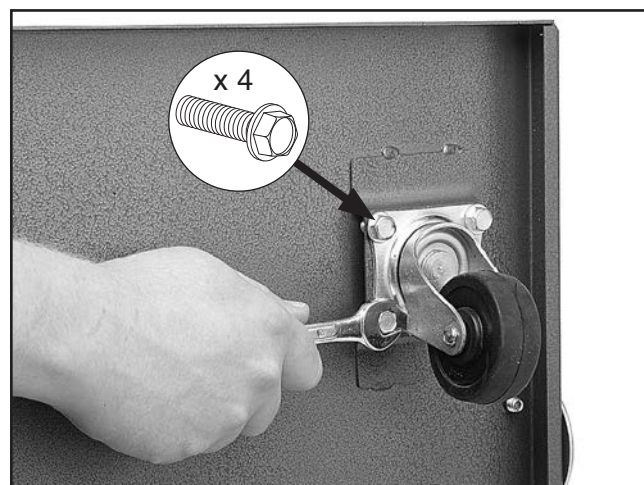

Figure 23. Mounting casters to base.
1. Mount the casters to the base plate using (16) 5/16"-18 x 1/2" flange bolts, as shown in **Figure 23**.